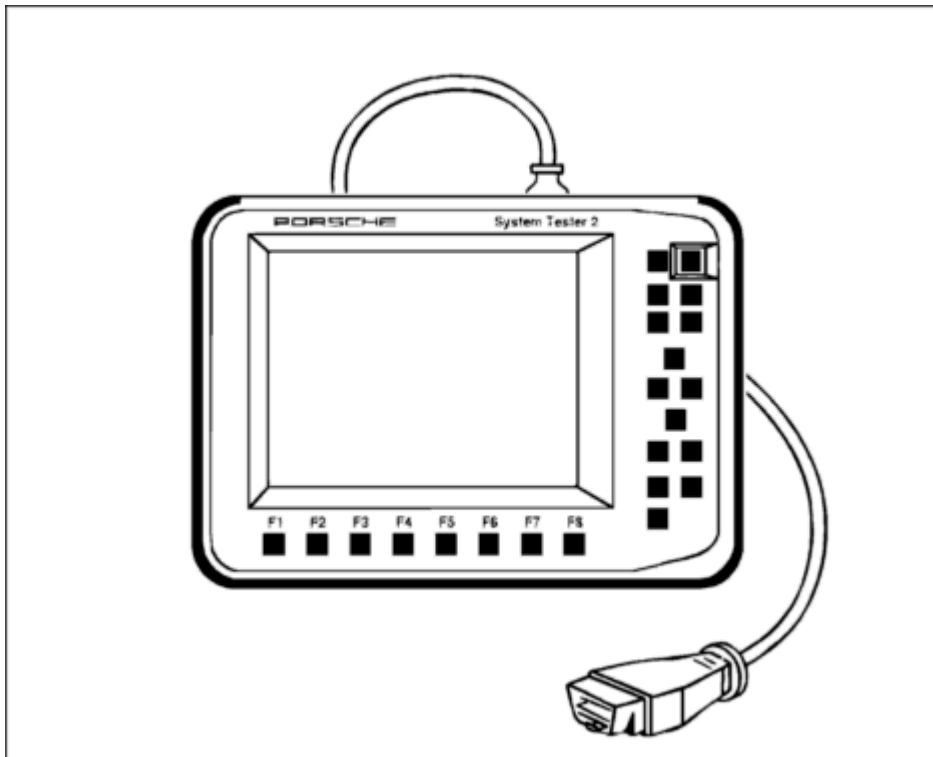

Fig. 79: Porsche System Tester
2. To fill the air suspension (the system must be filled with compressed air), use the **-Porsche System Tester-** . To do this, select the menu item Fill air suspension in the Air suspension system. See **Fig. 79**.